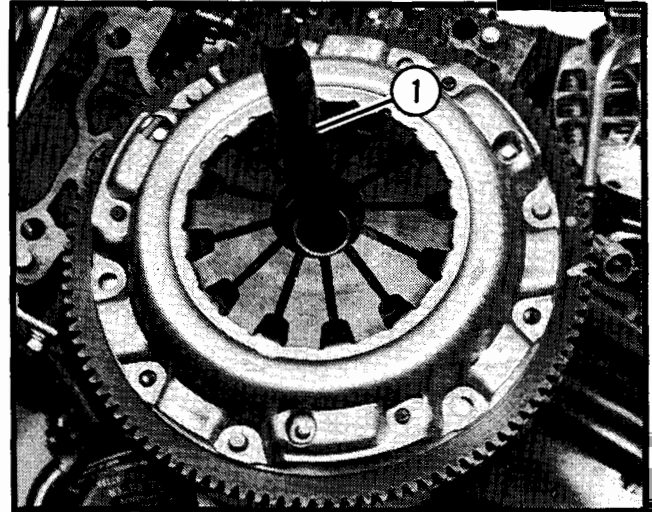

Figure 4.
2. Install the clutch disc and pressure plate using alignment tool. See Figure 4.